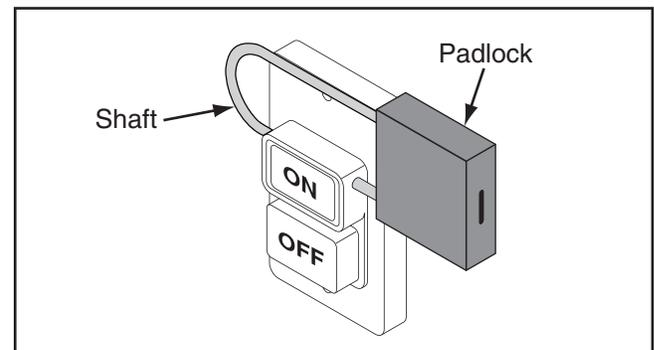

Figure 25. Switch disabling padlock inserted into ON button.
5. Insert a switch disabling padlock (sold separately) through green ON button, as shown in **Figure 25**.